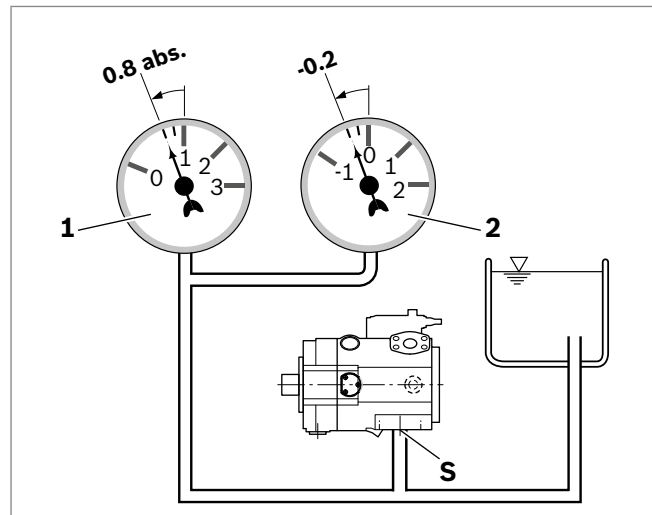

Fig. 8: Suction pressure
- ▶ Make sure that a minimum suction pressure of 0.8 bar abs. (without charge pump) or 0.7 bar abs. (with charge pump) is present at port "S" during operation and at cold start, in all installation positions and installation locations for the axial piston pump, see Fig. 8. See data sheet for other pressure values.